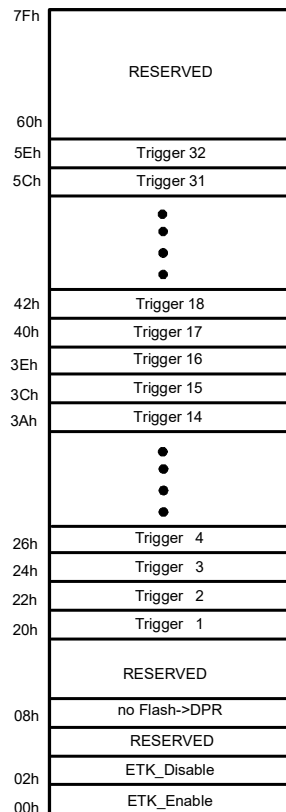

Fig. 4-6 Division of the 128 Byte Trigger Segment
The ETK11.0 contains a trigger comparator which can be configured to select a segment of 128 Bytes out of the measurement data memory address space (at a 128 Byte boundary). The base address of the chosen 128 Byte segment is known as the trigger segment address. Fig. 4-6 "Division of the 128 Byte Trigger Segment" shows the configuration of the 128 Byte trigger segment.
- Writing to a dedicated address in the trigger segment (trigger segment address + 0x008h, see Fig. 4-6 "Division of the 128 Byte Trigger Segment").